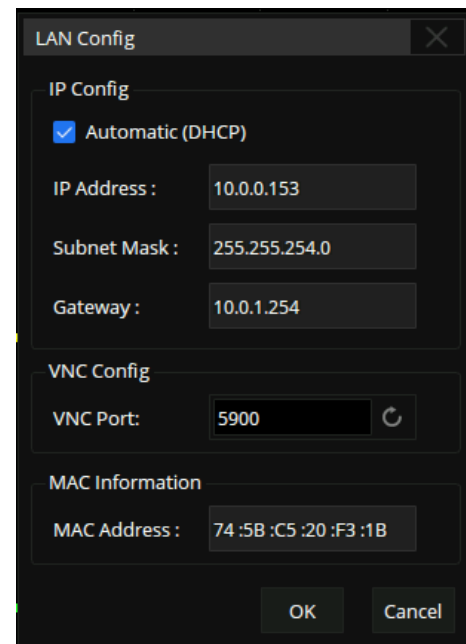

Figure 23.2 IP Set
7. Touch **IP Set** to enter the IP setting interface, see figure 23.2.